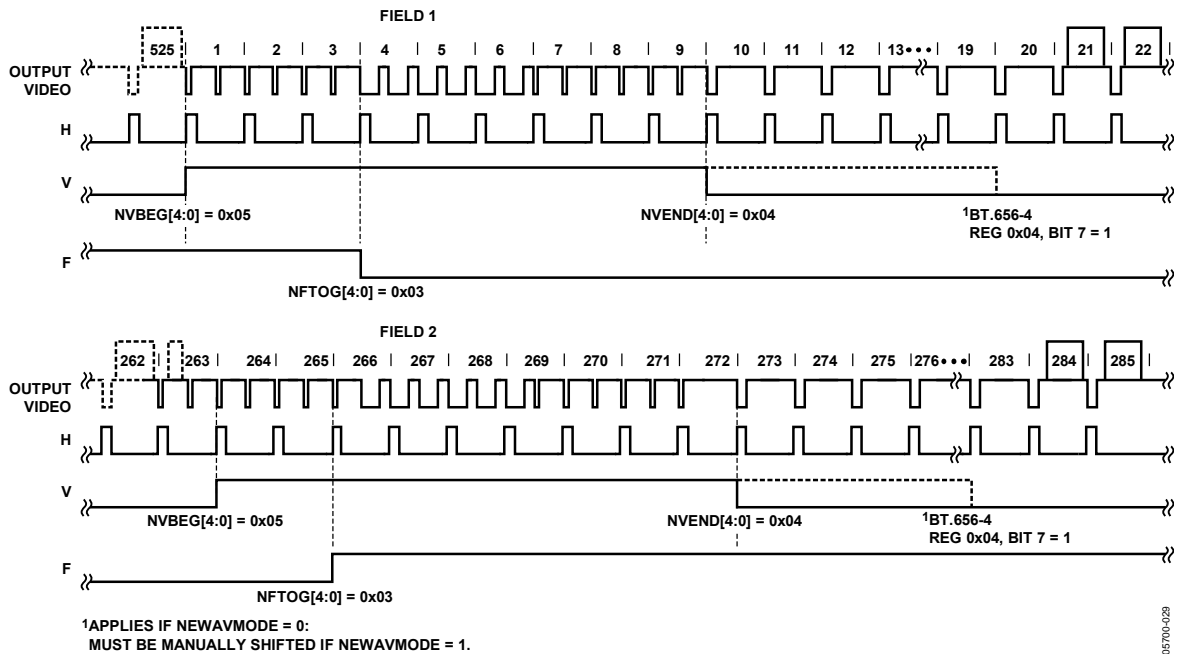
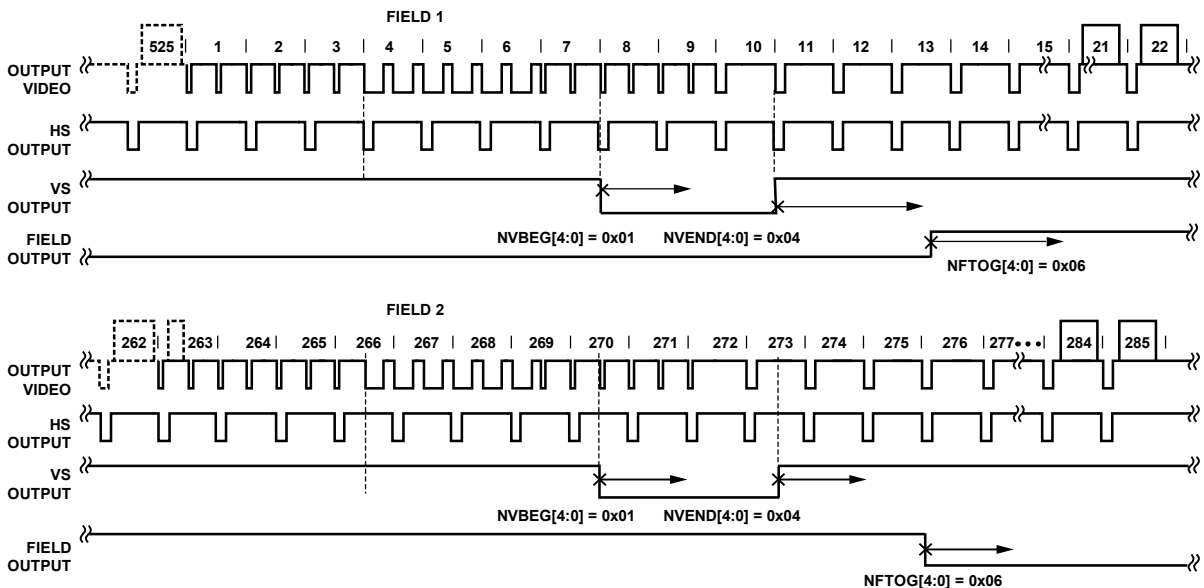
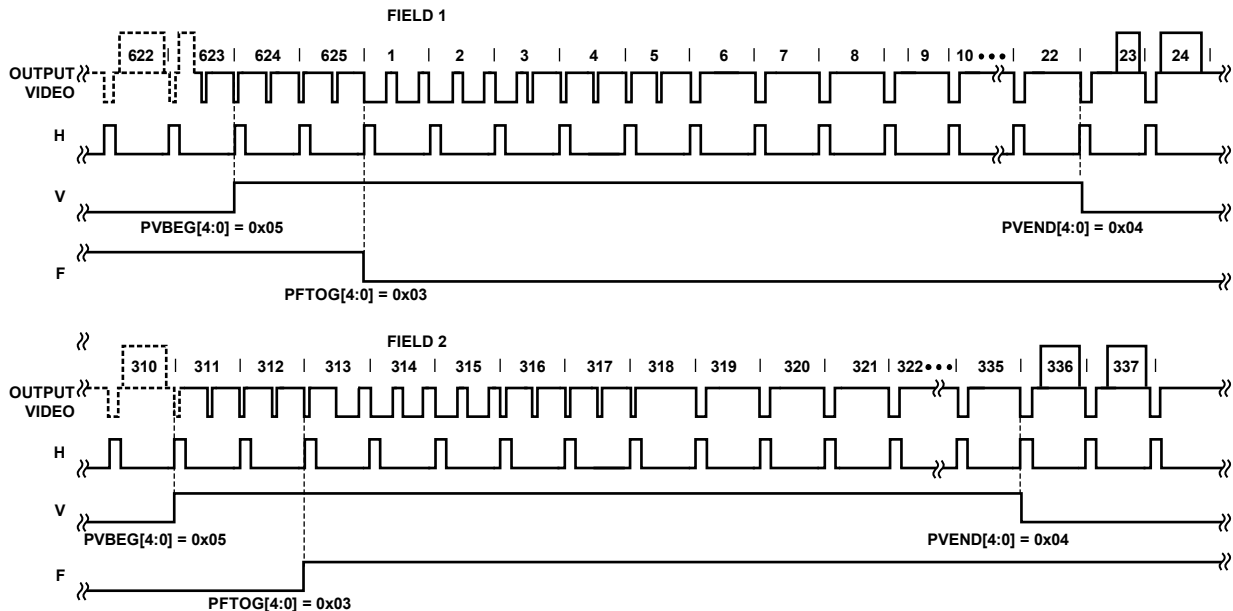
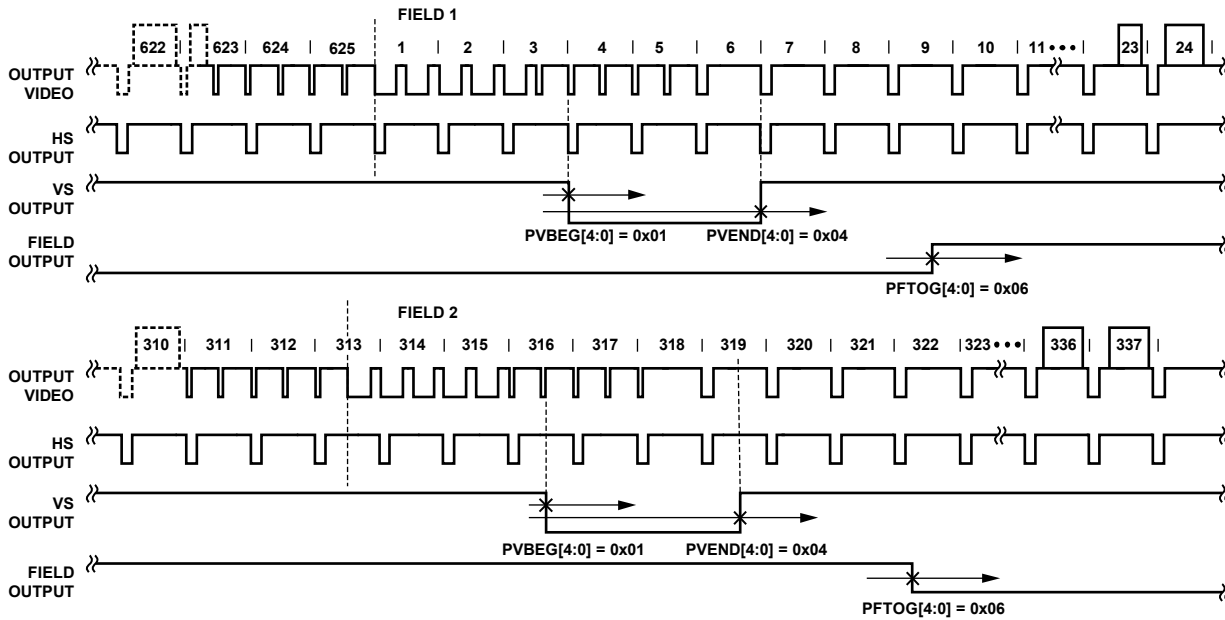

Figure 38. NTSC Default, ITU-R BT.656 (the Polarity of H, V, and F is Embedded in the Data)
Figure 39. NTSC Typical VSYNC/FIELD Positions Using the Register Writes in Table 65
Figure 43. PAL Default, ITU-R BT.656 (the Polarity of H, V, and F Is Embedded in the Data)
Figure 44. PAL Typical VS/FIELD Positions Using the Register Writes Shown in Table 66
Setting NEWAVMODE to 1 (default) enables the manual position of the VSYNC, FIELD, and AV codes using Register 0x32 to Register 0x33 and Register 0xE5 to Register 0xEA. Default register settings are CCIR656 compliant; see Figure 38 for NTSC and Figure 43 for PAL. For recommended manual user settings, see Table 65 and Figure 39 for NTSC and Table 66 and Figure 44 for PAL.
**Table 65. User Settings for NTSC (See Figure 39)**
Table 66. User Settings for PAL (See Figure 44)